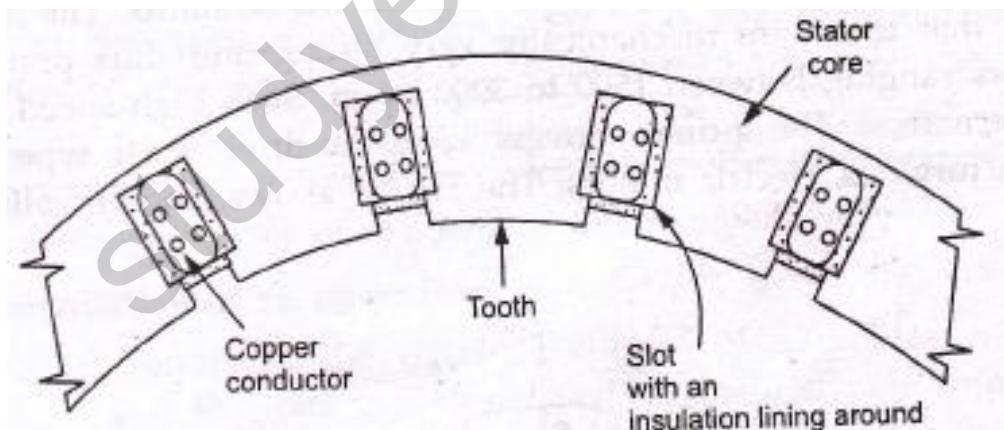

Fig. 35 Section of an alternator stator
1) stator : The stator is a stationary armature. This consists of a core and the slots to hold the armature winding similar to the armature of a d.c. generator. The stator core uses a laminated construction. It is built up of special steel stampings insulated from each other with varnish or paper. The laminated construction is basically to keep down eddy currents losses. The entire core is fabricated in a frame made up of steel plates. The core has slots on its periphery for housing the armature conductors. Frame does not carry any flux and serves as the support to the core. Ventilation is maintained with the help of holes cast in the frame. The section of an alternator stator is shown in the fig. 35.